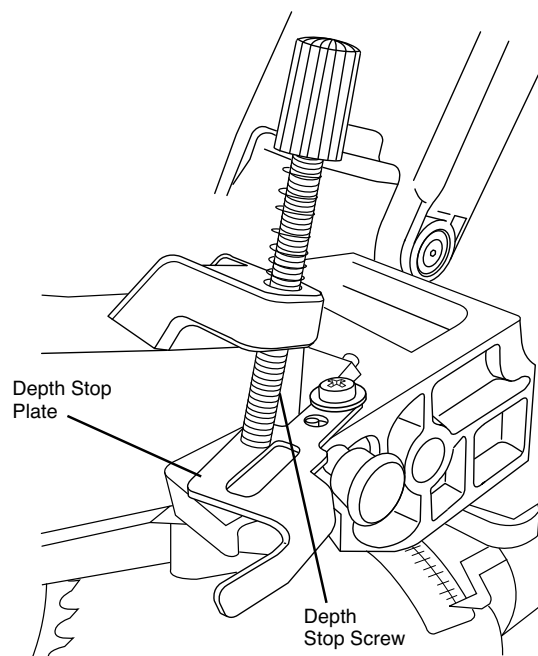

Figure 17
2. Pull the depth stop plate out away from the saw head (see Figure 17).
3. Grip the main handle (item 3, page 8) and push down the saw head while watching the depth stop screw contact the top surface of the depth stop plate. The screw will not pass through the hole in the plate.